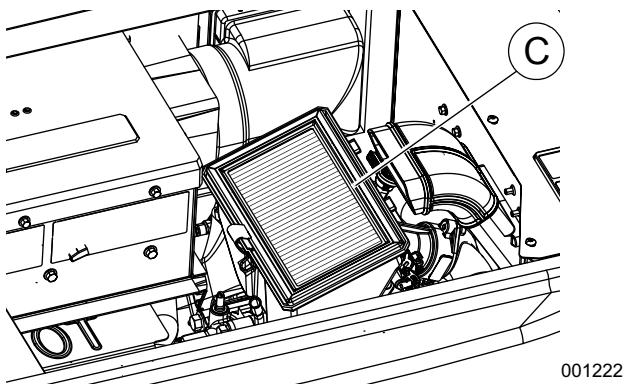

Figure 4-11. Removing the Air Filter
- See **Figure 4-11**. Pull out the old air filter (C) and discard.